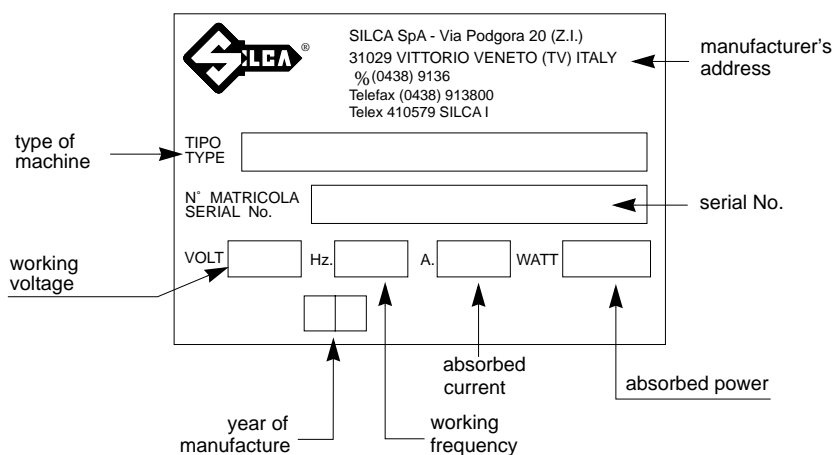

Fig. 2
- The machine is provided with an identification label which includes the machine's serial number (fig. 2).